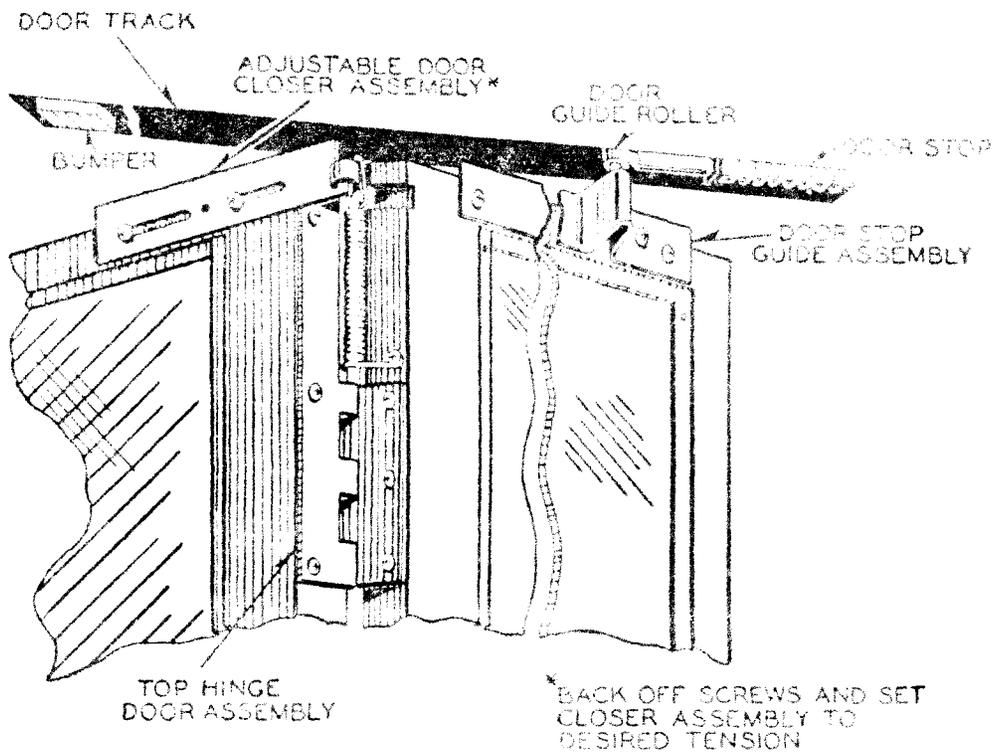

Fig. 1—KS-14611, L2 Telephone Booth—Door Assembly
- (a) Adjustment of door stops and closer (see Fig. 1).